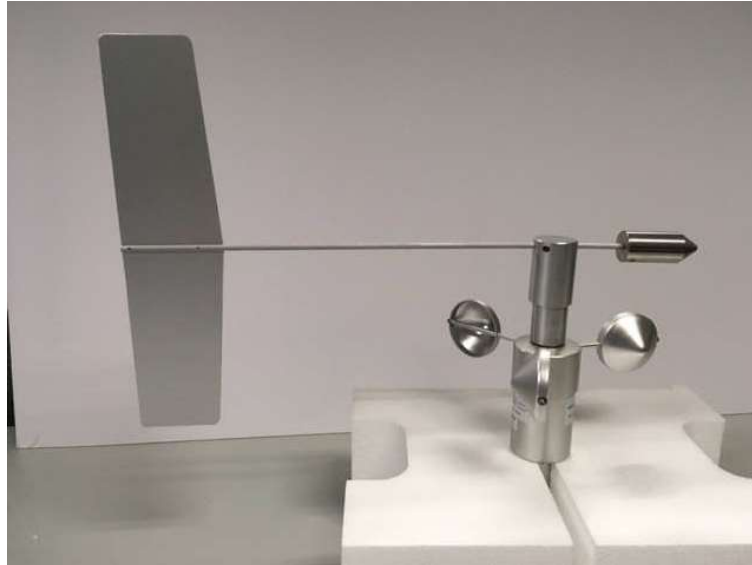

FIGURE 4-3
- D. Refer to Figure 4-3. To facilitate maintenance and to minimize the risk of damage, support the sensor upright in the foam packing as shipped or some other method.